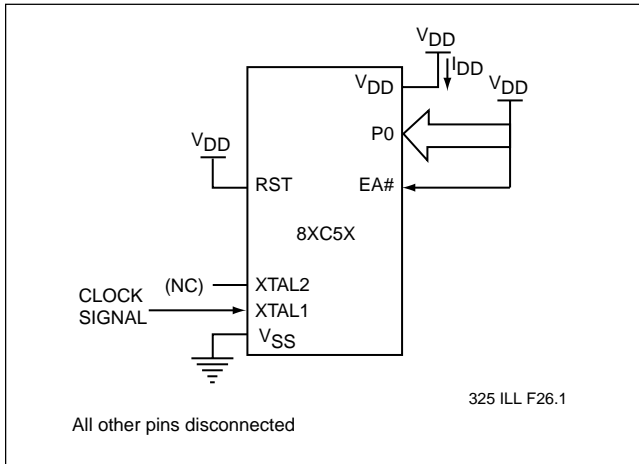

FIGURE 18: I_{DD} TEST CONDITION, ACTIVE MODE
7. See Figures 18, 19 and 20 for test conditions. Minimum V_{DD} for Power Down is 2 V.